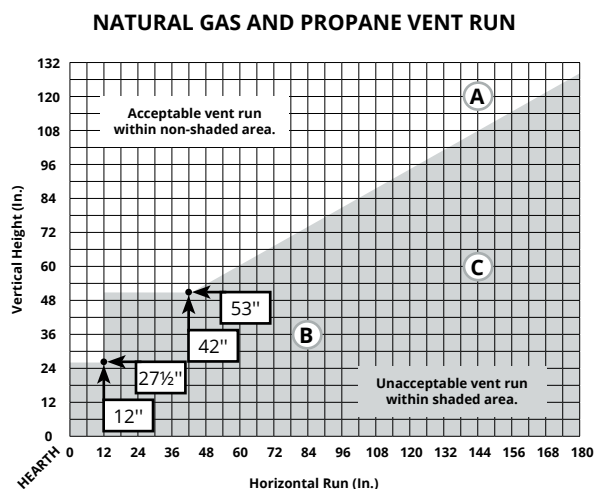

Figure 11. PL42DF\* Rear Vent Venting Graph for NG and propane wall mounted terminations.
Measure the vertical height from the fireplace hearth to the centre of the termination and the horizontal run from the fireplace flue collar to the wall flange of the termination. Plot on the Venting Graph Figure 11 or 11.b with an 'X'.
- Venting runs must fall within the limits set by the venting graphs, see Figure 11 or 11.b
Figure 11.b Straight run, Rear Vented, wall mounted termination. The vent run must comply with the Venting Graph for Rear vent, wall mounted terminations, Figure 11. NOTE: Straight through the wall rear vent available for **Natural Gas** only.
Figure 11.c Rear Vented, wall mounted Multi-elbow termination installation. The vent run must comply with the Venting Graph for Rear vent, wall mounted terminations, Figure 11.b